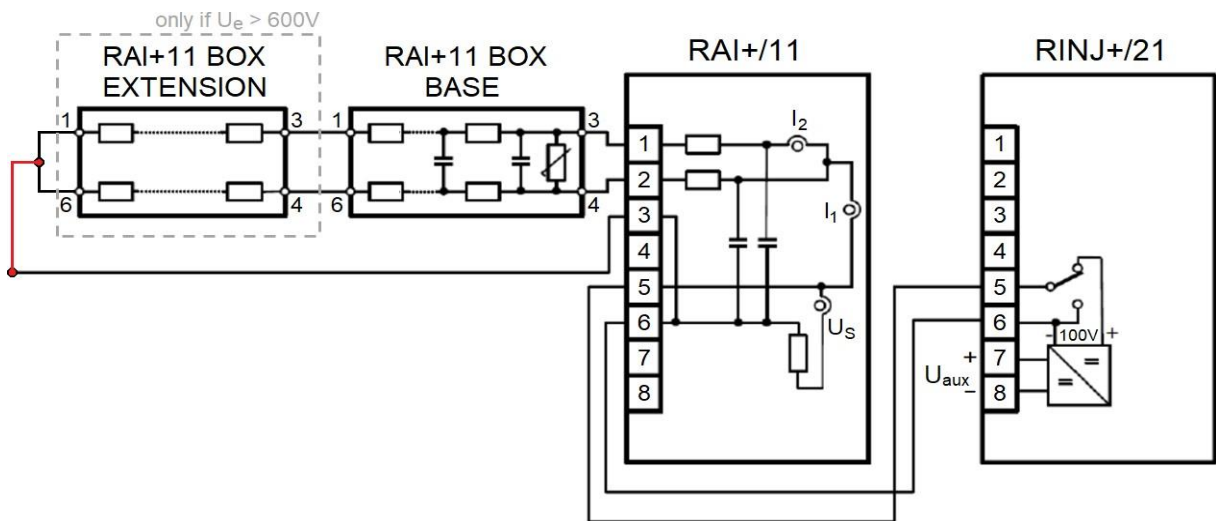

Figure 1-4 Wiring for Calibration mode
- **Calibration** is to be selected for measurement of the coupling resistances. In this case, both inputs of the coupling unit must be connected to the earth (Connector 3 of RAI+/11 hardware module, see Figure 1-4). The measured values are displayed among the online values.